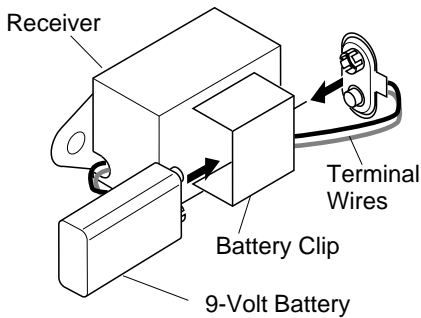

Figure 39 - Installing Battery in Receiver
3. Install 9-volt battery (not included) into receiver battery clip and connect to terminals (see Figure 39).